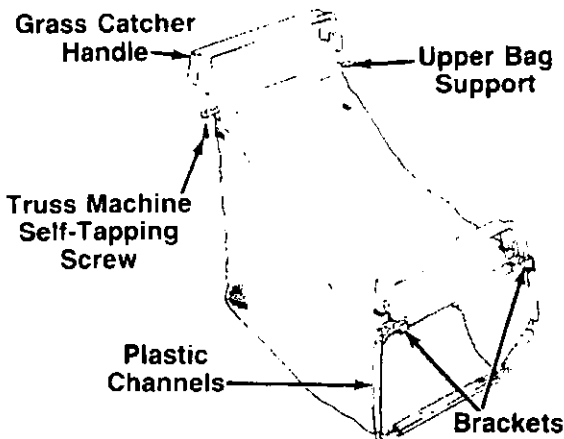

FIGURE 9.
1. Place bag over frame (black plastic side is the bottom of bag). Handle on frame goes to the top of bag. Brackets hook toward the front. See figure 9.
2. Secure bag to frame by slipping plastic channels on bag over frame. See figure 9.
3. Insert the upper bag support into the pocket on the rear of the bag. Place grass catcher handle on top of grass catcher support as shown in figure 9. The handle should hook toward the rear of the bag as shown in figure 9. Secure with two truss machine self-tapping screws.